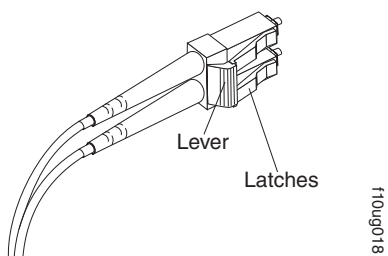

Figure 28. LC-LC fibre-channel cable lever and latches
1. On the end of the LC-LC cable that connects into the SFP module or host bus adapter, press down and hold the lever to release the latches, as shown in Figure 28.